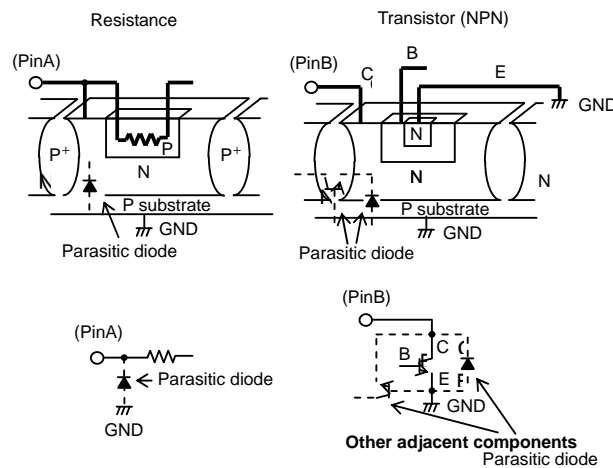

Fig.1 Simplified structure of a Bipolar IC
13. This IC is a monolithic IC which (as shown is Fig.1)has P+ substrate and between the various pins. A P-N junction is formed from this P layer of each pin. For example, the relation between each potential is as follows,